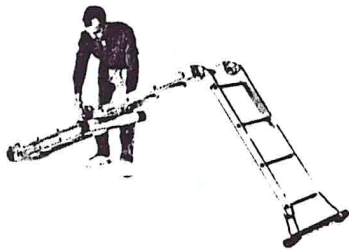

FIGURE 2.
2) Extend rail on other side as shown in figure 2, keeping end rail folded. Lock the two hinges.